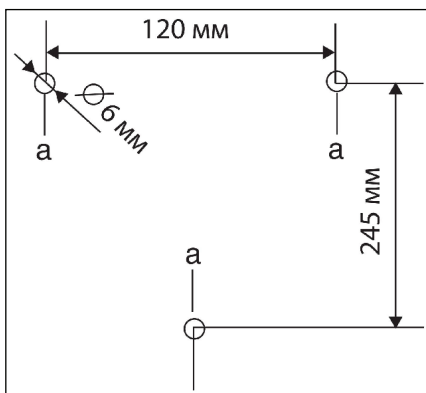

Figure 2
2. Using the included installation template, drill three 6mm holes in the wall. Insert the wall plugs (Figure 2) into the drill holes.